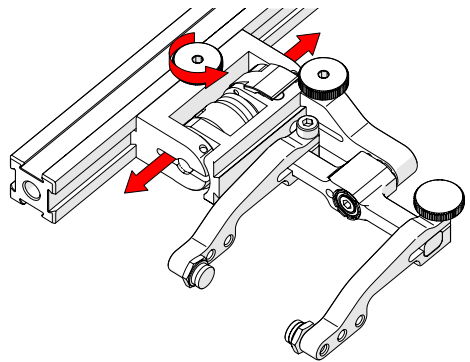

Fig. 88 - Adjust on frame bar
2. Use the probe holder adjustment knob to position the probe holder along the frame bar (Fig. 88).